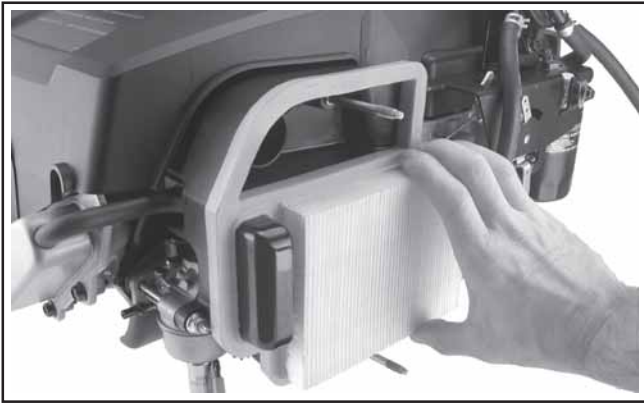

Figure 11. Installing Air Cleaner Element.
5. Install the air cleaner element with the pleated side "out" and seat the rubber seal onto the edges of the air cleaner base. See Figure 11.